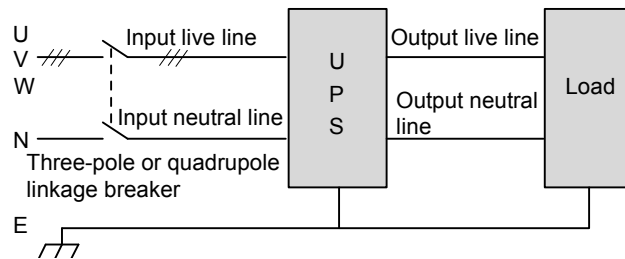

Figure 2-16 Correct power distribution method
4. Install a three-pole or quadrupole linkage breaker on the mains input neutral line and live line to facilitate cutting power under emergency conditions. Use correct power distribution method (see Figure 2-16) to ensure safety of the UPS and user's equipment.